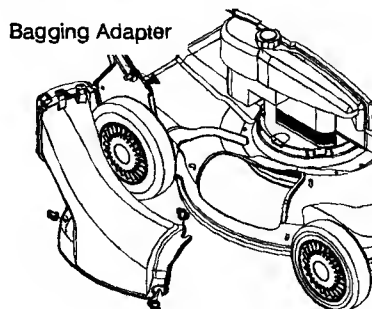

Figure 9
2. Replace with bagging adapter (see figure 9). Attach using wing nuts. Be sure that inner lip of attachment goes under the edge of the deck.